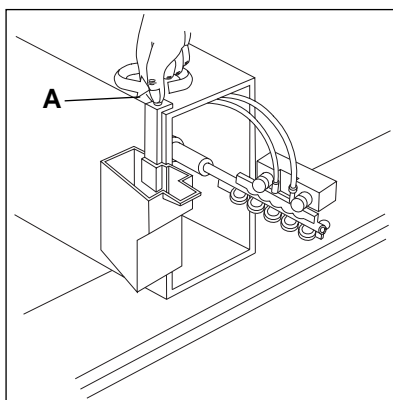

Figure 5.2
2. Twist knurled knob (A) (Figure 5.2).